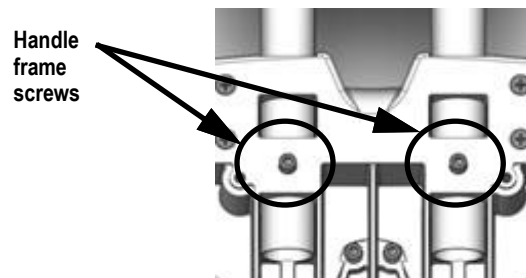

Figure 2-6. Loosen Screws to Release the Back Handle Frame
2. Release both of the screws holding the back handle frame (marked with circles in Figure 2-6).